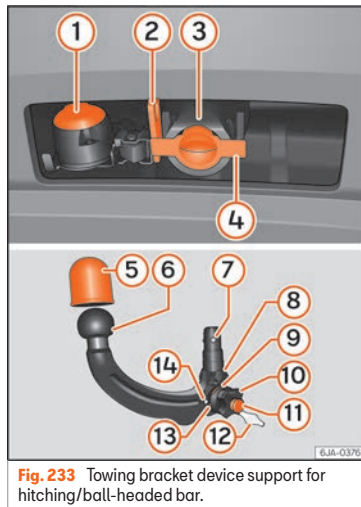

Fig. 233 Towing bracket device support for hitching/ball-headed bar.
Key to » **Fig. 233**
- Remove the cap from the clamping bush **4** » **Fig. 233** by pulling downwards.
- Place the cover over the clamping bush (4) »» Fig. 233.